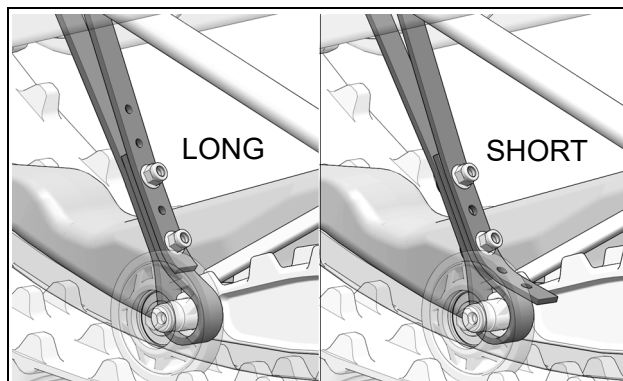

Figure 18
- Slide the free end of the strap up or down to align the holes of the desired position with the bolts in the strap. Figure 18.